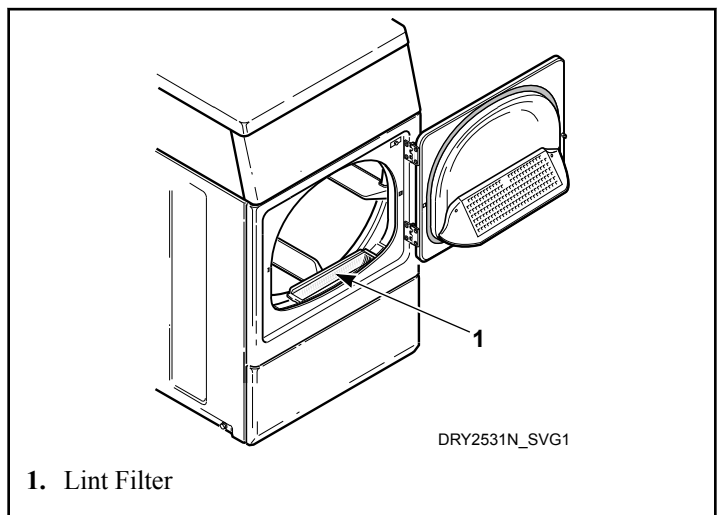

Figure 29
**CLEAN THE LINT FILTER BEFORE DRYING EACH LOAD.** (Refer to *Figure 29* for lint filter location.) Cleaning the lint filter is important because a layer or pad of lint on the filter will block the flow of air through the dryer, thus reducing the efficiency of the dryer. The clothes will take longer to dry and energy will be wasted.